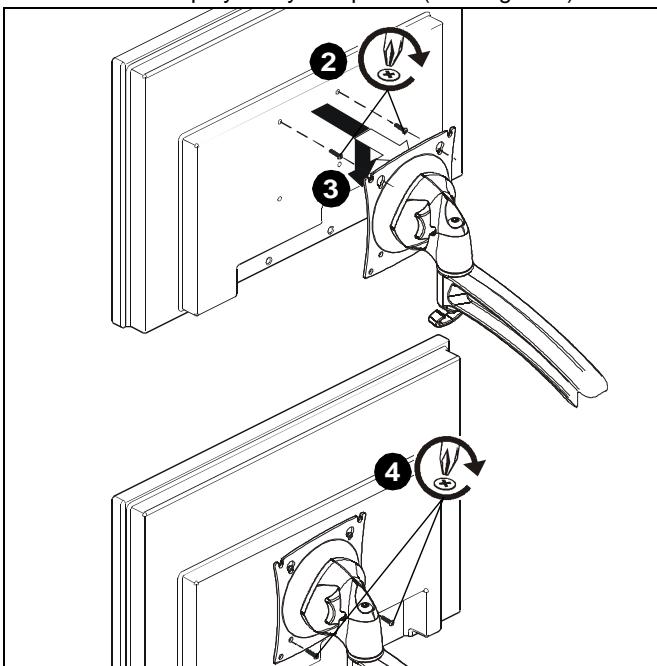

Figure 4
1. Ensure faceplate is able to swivel and tilt easily, yet still be tight enough to hold display in desired position. Adjust as required before proceeding. See "ADJUSTMENT" for detail. (See Figure 4)
2. Using Phillips screwdriver, carefully install two M4x14mm screws (B) into the *upper* mounting holes on the display. Thread screws completely into display, then back out 3 complete turns. (See Figure 4)
3. Pick up and align display so that screws (B) (installed on the back of the display in the previous step) fit into the mounting holes on the faceplate. Rotate the bracket as required. Lower the display firmly into place. (See Figure 4)
4. Using Phillips screwdriver, install two remaining M4x14mm Phillips screws (B) through the *lower* mounting holes in faceplate into the display. (See Figure 4)
5. Tighten all four screws (B). Do not overtighten!